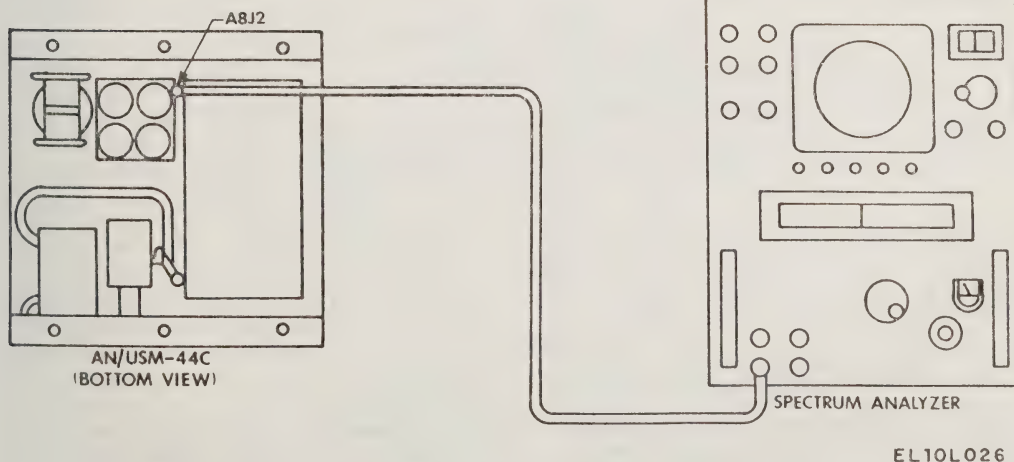

Figure 7-19. Rf divider A8, alignment test setup.
- Set up the equipment as shown in figure 7-19.